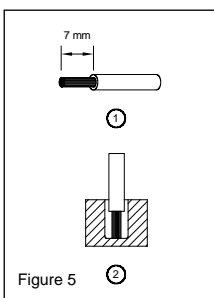

Figure 5
You can use flexible (stranded wire) or solid cables with cross section 0.32-3.3 mm² (AWG 22-12) and torque of 4.67 Kgf-cm (4.05 lb in). To secure reliable and shock proof connections, the stripping length should be 7 mm (see Fig. 5 (1)). Please ensure that wires are fully inserted into the connecting terminals as shown in Fig. 5 (2).